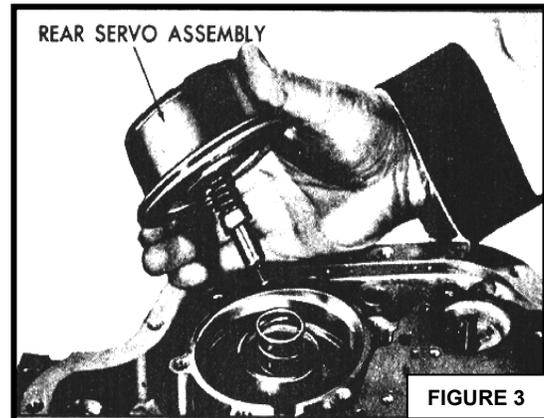
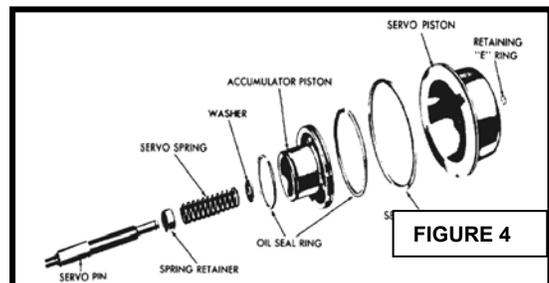

FIGURE 3
FIGURE 4
5. Remove existing valve body, separator plate, and gaskets. Discard all check balls. Remove rear servo assembly. *figure 3* Remove and discard oil-sealing rings from servo accumulator piston (Figure 4) and discard stock accumulator spring (Figure 4a). Install new accumulator spring furnished in kit and replace servo assembly and cover.